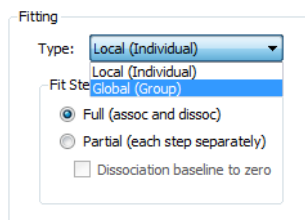

Figure 5-30: Selecting Global (Group) Fit
2. In the Fitting box under Fit Steps, select **Full (assoc and dissoc)**, as shown in Figure 5-30.
3. Select **Global (Group)** as the Type (Figure 5-30):